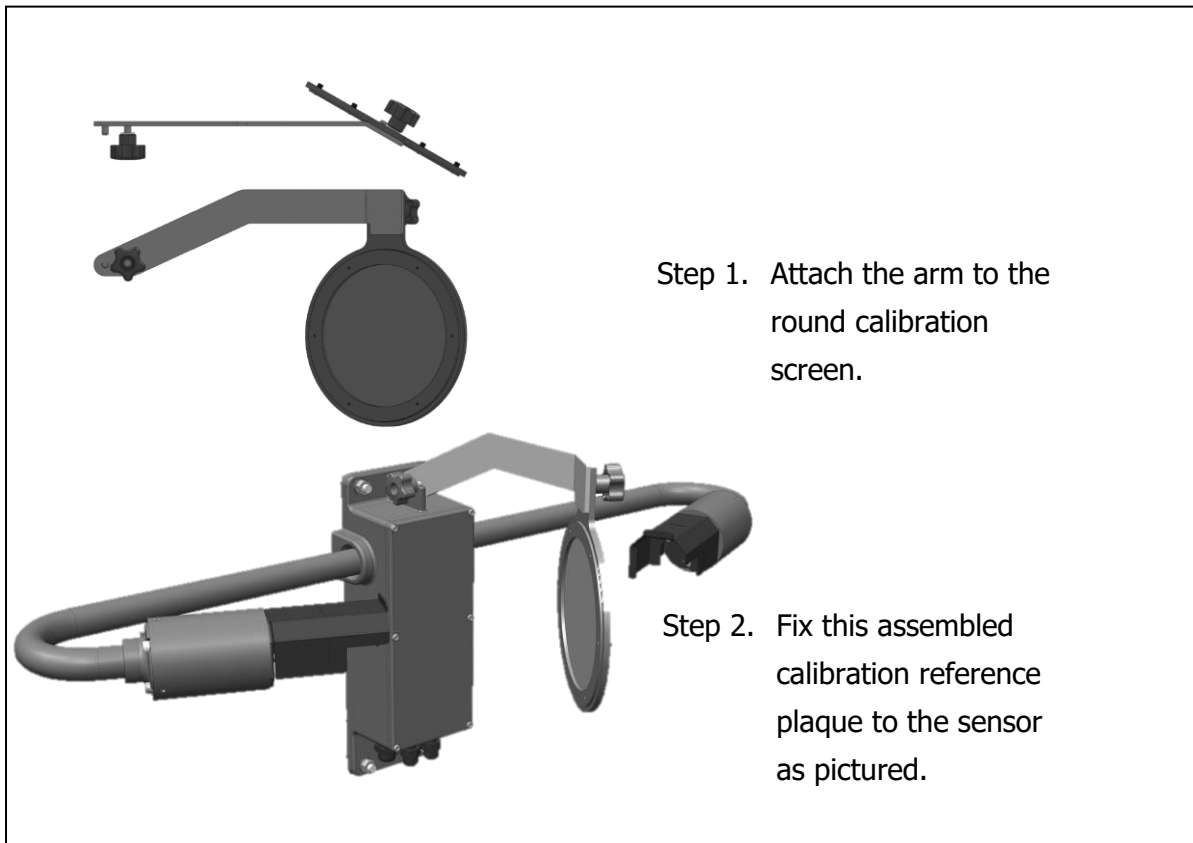

Figure 5-1 Assembly of calibration reference plaque
Assembly of the Calibration Reference Plaque is shown in Figure 5-1.
STEP 2: Attach the calibration reference plaque to the sensor as shown in Figure 5-1 (power to the sensor need not be removed). Do not stand close to the sensor during calibration as reflections may cause errors in the reported values.